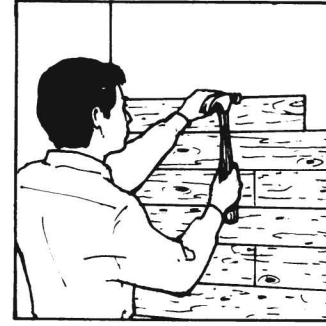

Fig. 17-85 Finish one wall before starting another. (Grossman Lumber.)
5. Finish one wall before starting another. Line the ceiling and floor in a similar manner. Each piece of cedar is tongued and grooved for easy fit and application (Fig. 17-85).